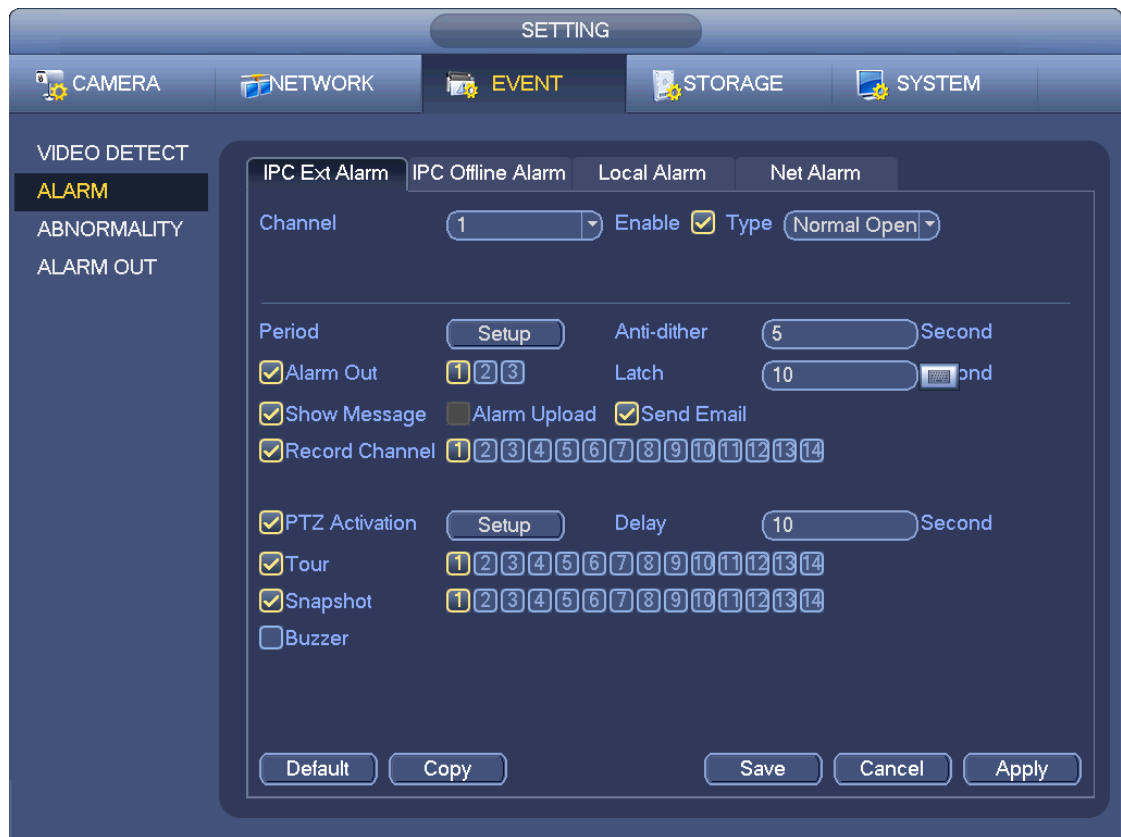

Figure 4-58
In the main menu, from Setting->Event-> Alarm, you can see alarm setup interface. See Figure 4-58.
- c) From Main menu->Setting->Event->Alarm, you can go to Figure 4-58 to set alarm parameter and enable snapshot function.